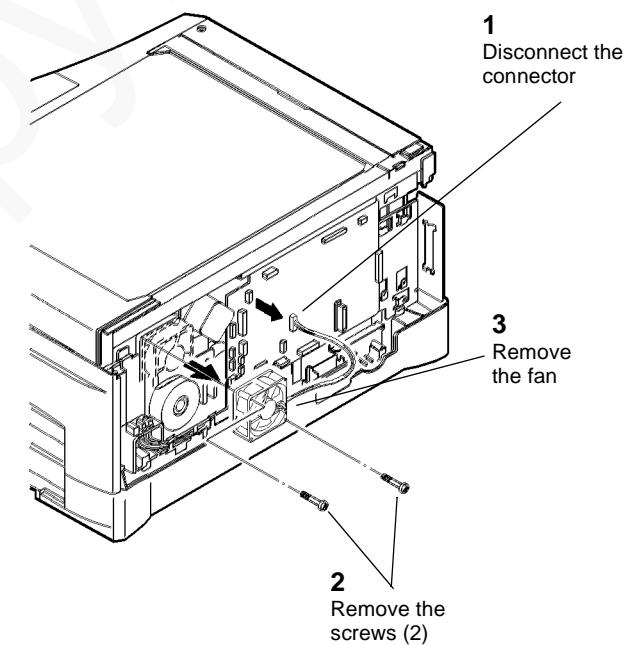

Figure 1 Removing the Ventilation Fan
4. (Figure 1): Remove the Ventilation Fan.